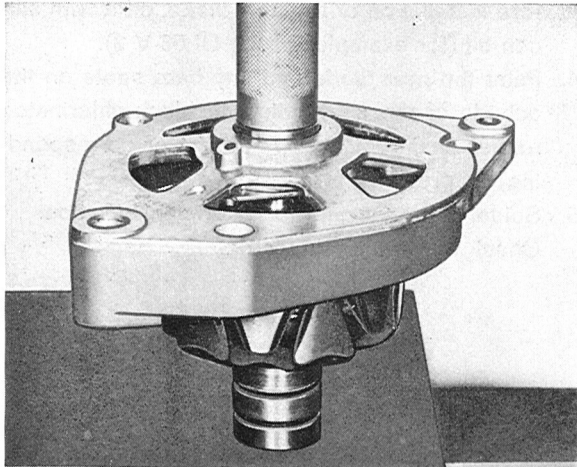

Fig. 3-66. Assembly of rotor and drive end shield
3. Press the drive end bearing shield and spacing ring on the rotor, see Fig. 3-66.